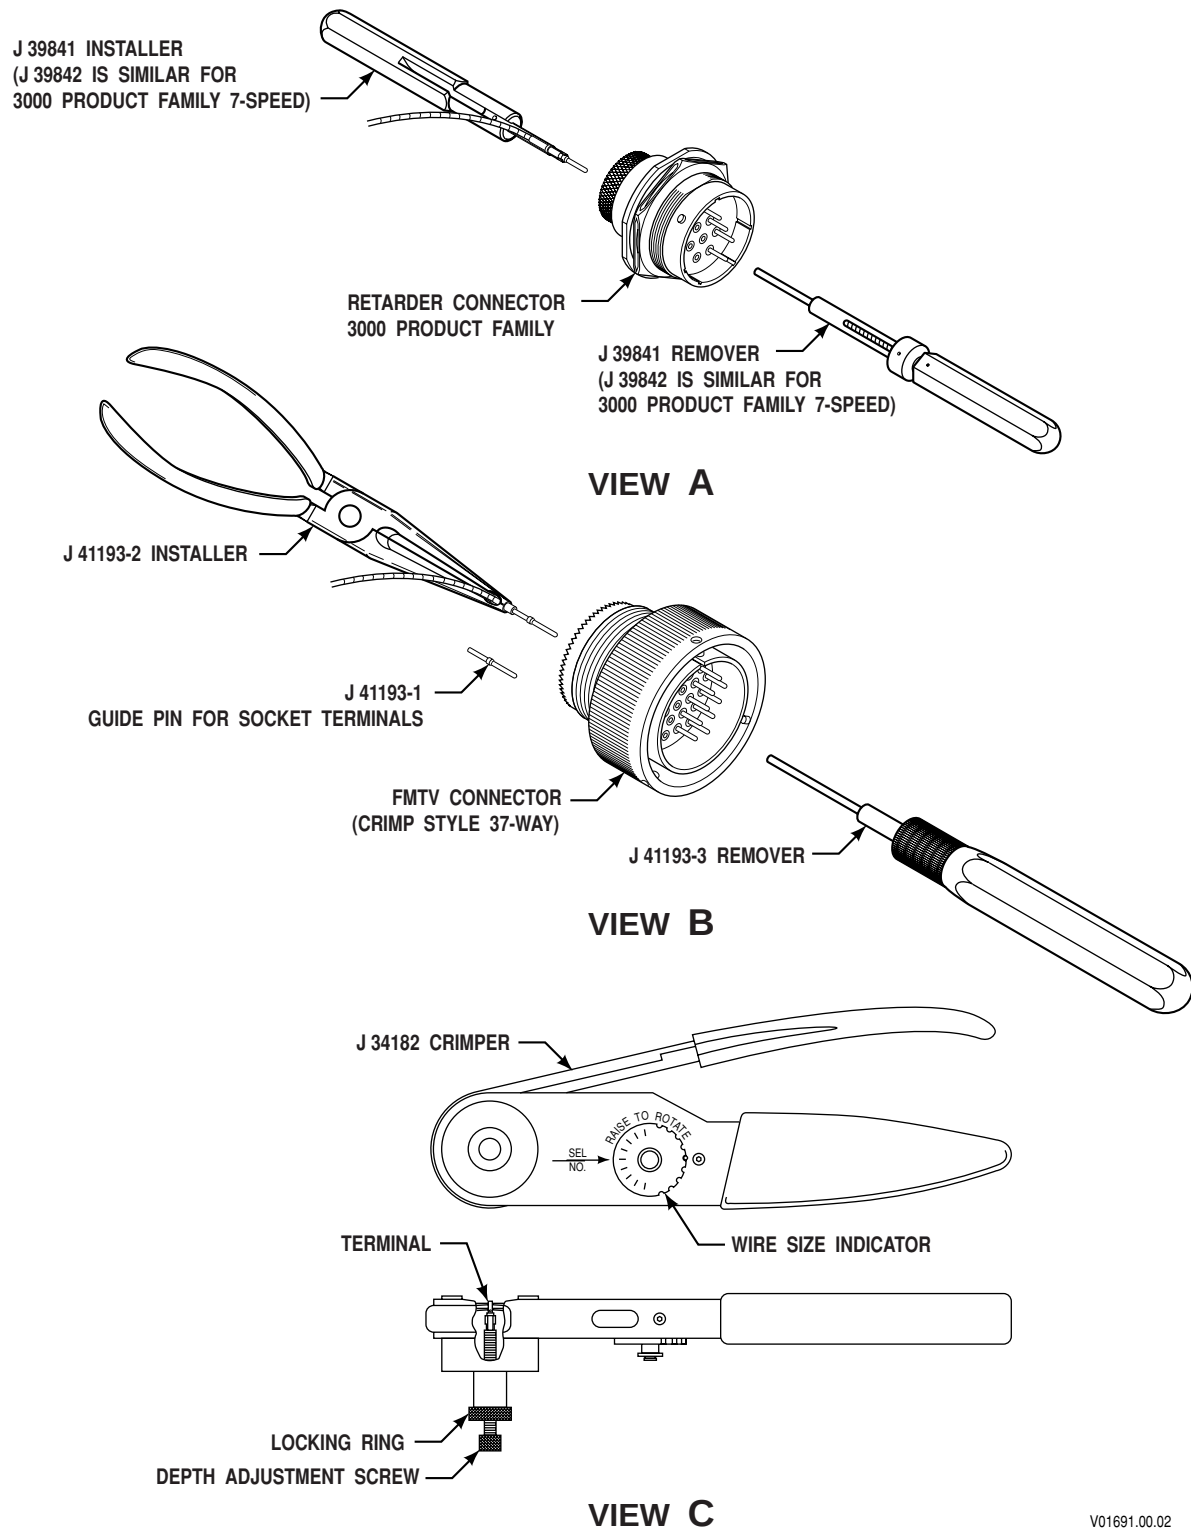

Figure E-14. ITT Cannon Connectors—Crimped (Bulkhead; 6-Way Transfer Case)
B. Terminal Removal (Figure E-14, View A and B)
C. Terminal Crimping (Figure E-14, View C)